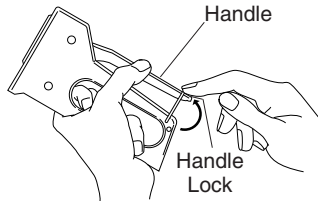

Figure 3
3. While holding handle down, slip handle lock up over handle (see Figure 3).